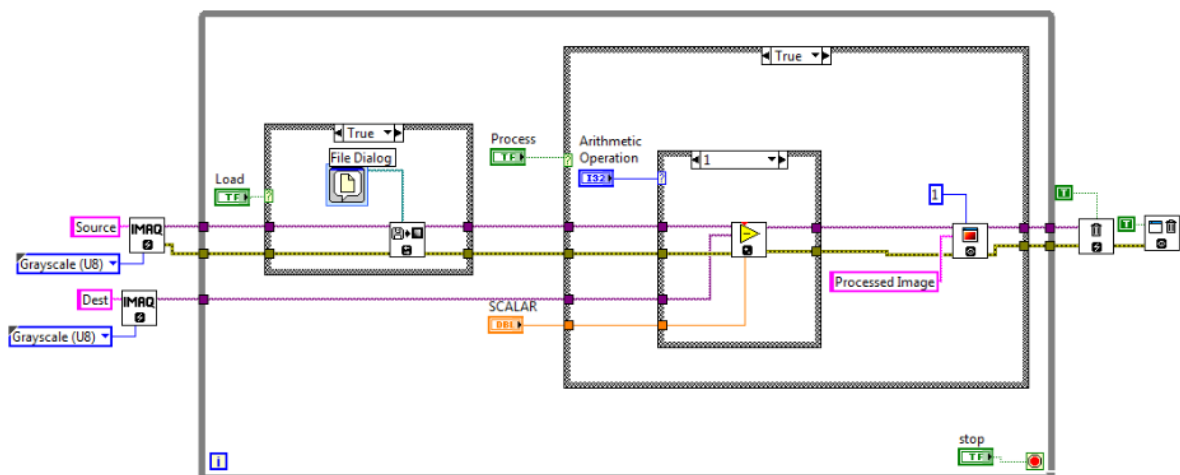

Figure 21: Block Diagram of Exercise 5
4. Build a **Block Diagram** as shown in Figure 21 by executing the following steps.
10. Finalize the **Block Diagram** as shown in Figure 21.